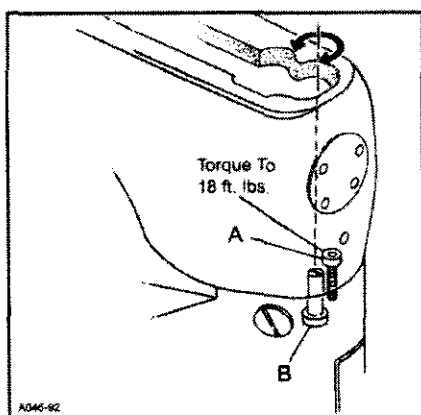

FIG.5
Remove the top front cover and gasket from the main frame. Loosen cylinder holding screw(A, Fig.5). Turn eccentric screw (B) clockwise or counterclockwise to move the cylinder so the needles are centered in the needle holes. Tighten screws(A) torque to 18 ft. lbs. and recheck settings.